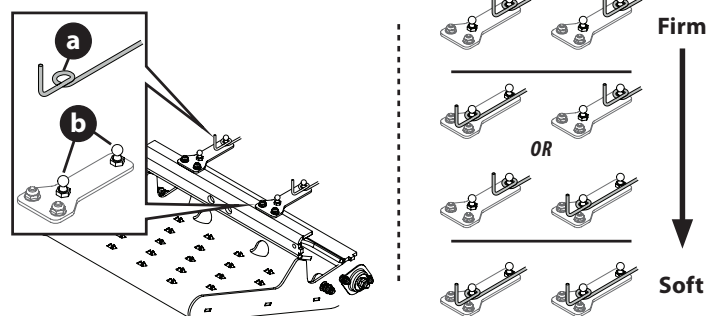

Fig. 8
The mower operator's platform suspension firmness is adjustable. Moving the two adjustment rods to one of four combinations (Fig. 8 inset) will provide a firmer or softer operator's platform suspension.
NOTE: Refer to Fig. 8 inset to see the stop position locations for the desired suspension firmness.
3. Moving one adjustment rod at a time, slightly pull and lift the adjustment rod off of the ball stud (b) (Fig. 8).
The mower operator's platform suspension firmness is adjustable. Moving the two adjustment rods to one of four combinations (Fig. 8 on page 8) will provide a firmer or softer operator's platform suspension.